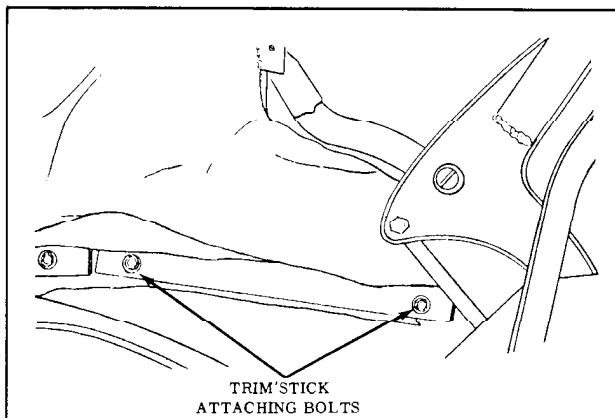

Fig. 17-23 Rear Quarter Trim Stick
6. At each rear quarter area remove attaching bolts and washer securing rear quarter trim stick assembly to rear quarter inner panel. (Fig. 17-23)